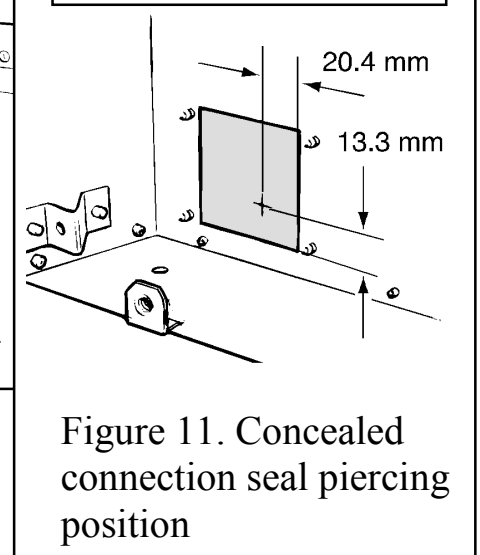

Figure 11. Concealed connection seal piercing position
5. For concealed connection only: Pierce a hole in the seal at the back of the convection box. See figure 11. The seal must envelop the pipe. If the hole is larger than the pipe, seal it with tape. **Do not pierce the seal unless the supply pipe is to pass through it.**